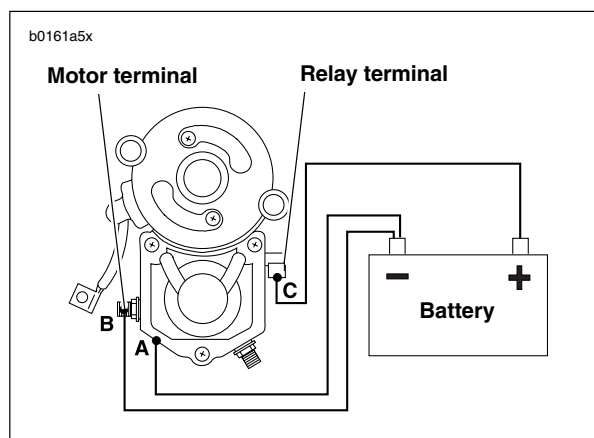

Figure 5-11. Pull-In Test
- Do not disassemble solenoid. Before testing, disconnect field wire from motor terminal as shown in Figure 5-11.
- See Figure 5-11. Using a 12 volt battery, connect three separate test leads as follows: